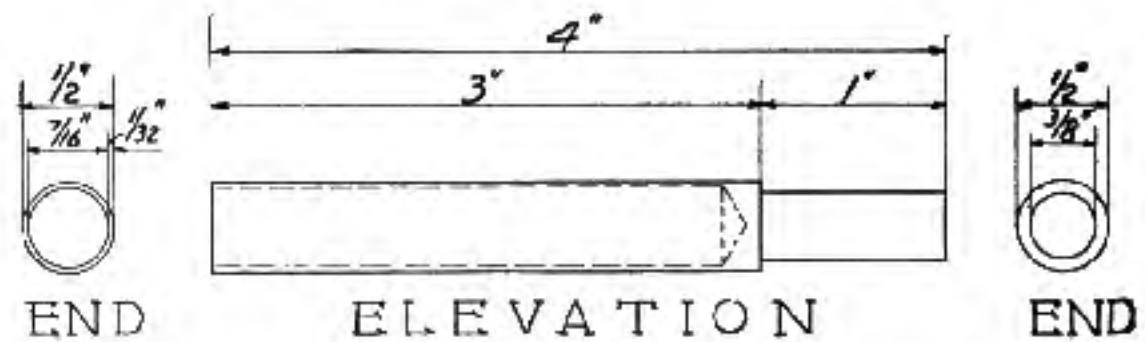

Fig. 34
**Drilling Holes in Glass**—A number of methods are offered for choice. For holes of medium and large sizes, use either brass or Shelby tubing having a diameter equal to that of the opening required, as illustrated in Figure 34, or make up special drills from cold-drawn steel. The cutting face in each instance should have a smooth, flat, circular surface. The speed should be about 100 feet per minute, or just fast enough to have the
emery cut well. Use either 90 or 100 emery or carborundum and water between the end of the drill, tubing, and glass. Place the abrasive under the drill with a thin piece of soft wood to avoid scratching the surrounding glass. Construct a wooden box so that the grit-impregnated water will not run over the drill-press table or floor. Cushion the glass with a piece of rubber with an opening in the center not larger than the one to be drilled. When drilling, it is best to penetrate approximately half-way and then turn the glass and drill from the opposite direction. Any fin left in the hole can be easily removed with a round file dipped in turpentine. It is possible to drill small holes by grinding the triangular end of a three-cornered file to a taper, and using it as a drill tool. For a lubricant, use a mixture of turpentine and camphor. Holes up to  $\frac{1}{2}$  inch in diameter can be drilled in glass with a flat drill by hardening it in sulfurous acid, and using a mixture of turpentine and camphor as a lubricant. The most successful glass drilling is accomplished with such implements as are shown in Figure 34.